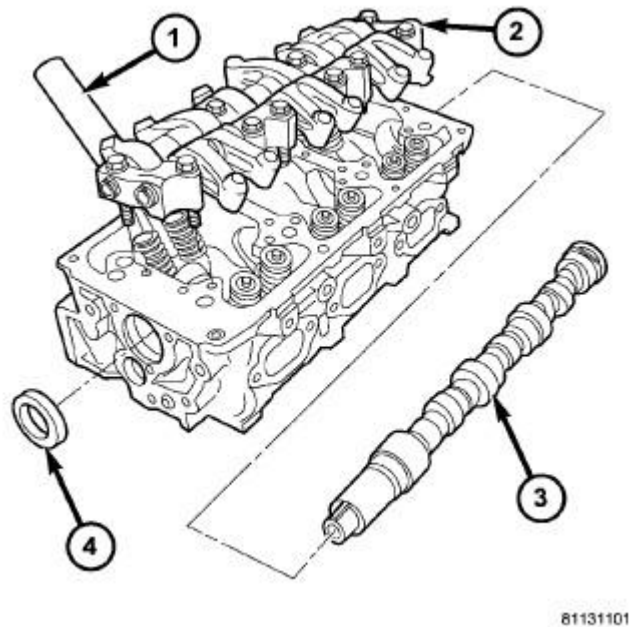

Fig. 169: Cylinder Head, Camshaft & Rocker Arm
1. Lubricate camshaft (3) bearing journals, camshaft lobes and camshaft seal (4) with clean engine oil and install camshaft (3) into cylinder head. Refer to **Fig. 169**.